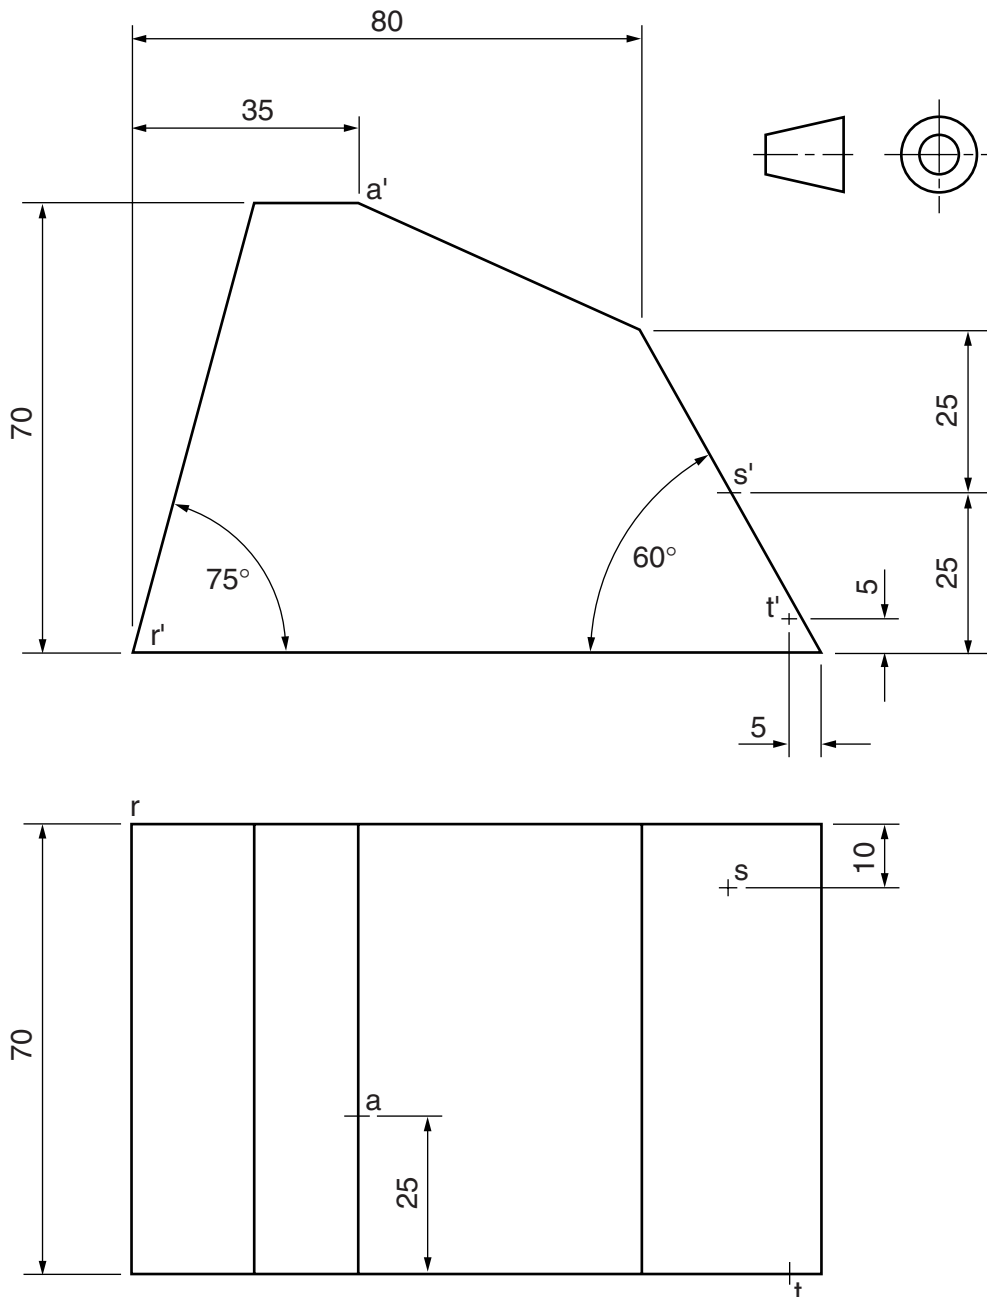

Fig. 4
- 4 Fig. 4 shows two views of a roof drawn to a scale of 1:100. An electric cable runs from A to three lights at R, S and T on the surface of the roof.